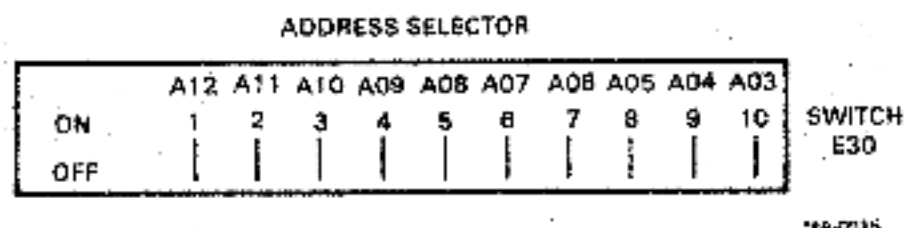

Figure 2-2 M7957 Address Selection
1. Refer to Paragraph 4.2 for descriptions of the address assignments. Set the switches at E30 so that the module responds to its assigned address. When a switch is closed (ON), a binary 1 is decoded. When a switch is open (OFF), a binary 0 is decoded. Note that the switch labeled 1 corresponds to address bit 12, 2 corresponds to address bit 11, etc. (Figure 2-2 and Table 2-3).